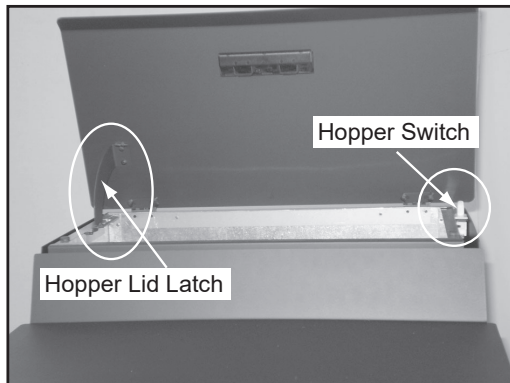

Figure 11.1
2. The hopper switch is designed to shut down the feed motor when the hopper lid is open. Leaving the lid open too long can cause the fire to go out (**Figure 11.1**).
There is a 4 screw terminal block located on the back lower left corner of the stove directly above the power cord inlet. The center 2 screws are for the thermostat wires (**see Figure 11.1 on page 11**).